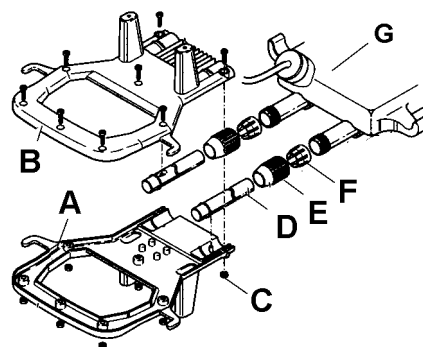

fig 5
- 3.2.5. Assemble the handle as follows referring to (fig 5):
- b) Fit grip B and secure with the 8 nuts and bolts provided (C).